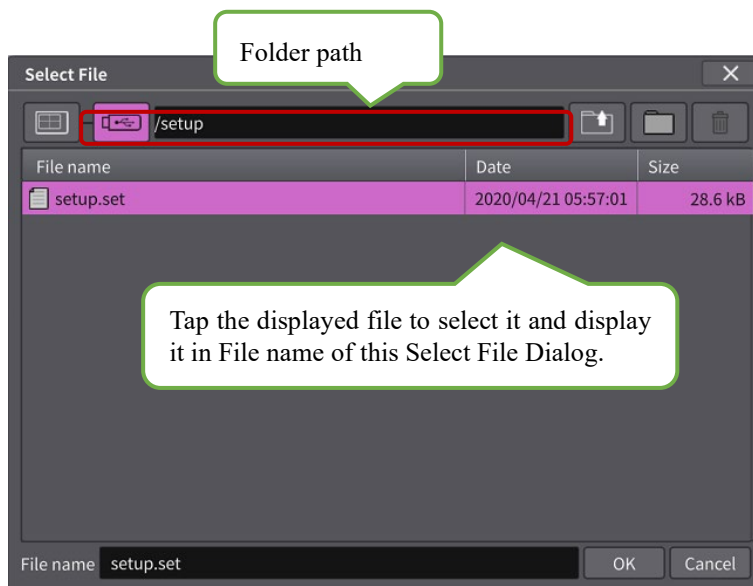

Figure 2.103 Select File Dialog
Displays a Select File Dialog shown in Figure 2.103.
1. Tap the Browse button. The Select File Dialog shown in Figure 2.103 is displayed.